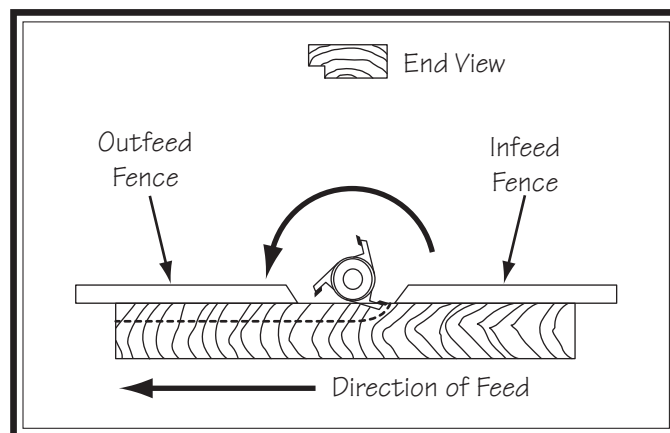

Figure 51. Partial feed fence adjustment.
6. Run a test piece through shaper (see Figure 51).